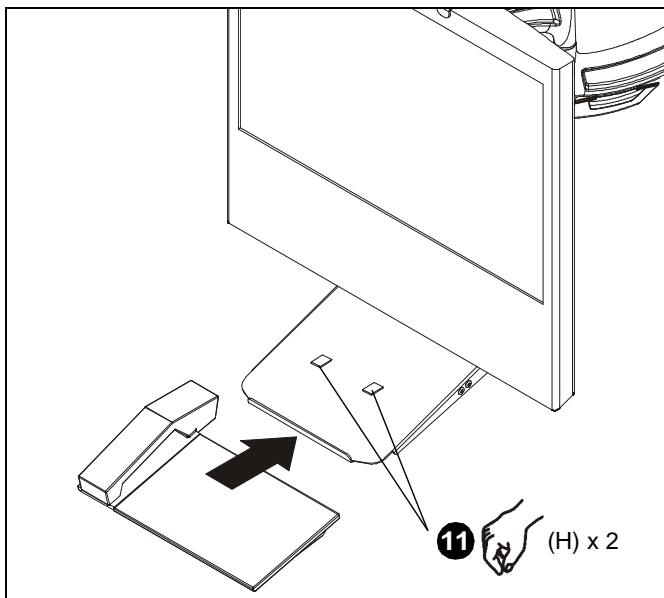

Figure 6
9. Put hook and loop (H) squares together so there are 2 squares.
11. Attach hook and loop squares to top of shelf assembly (B). (See Figure 6)